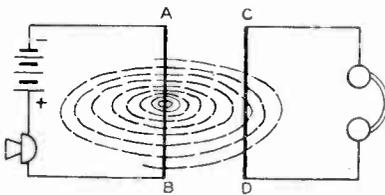

Fig. 18. Electro-magnetic induction.
33. TRANSMISSION: The two ways in which energy can be transferred from the transmitting antenna to the receiving aerials are by electromagnetic induction effect and by electrostatic and electromagnetic wave radiation into space. Fig. 18 shows a simple circuit for transmission by inductive effect.